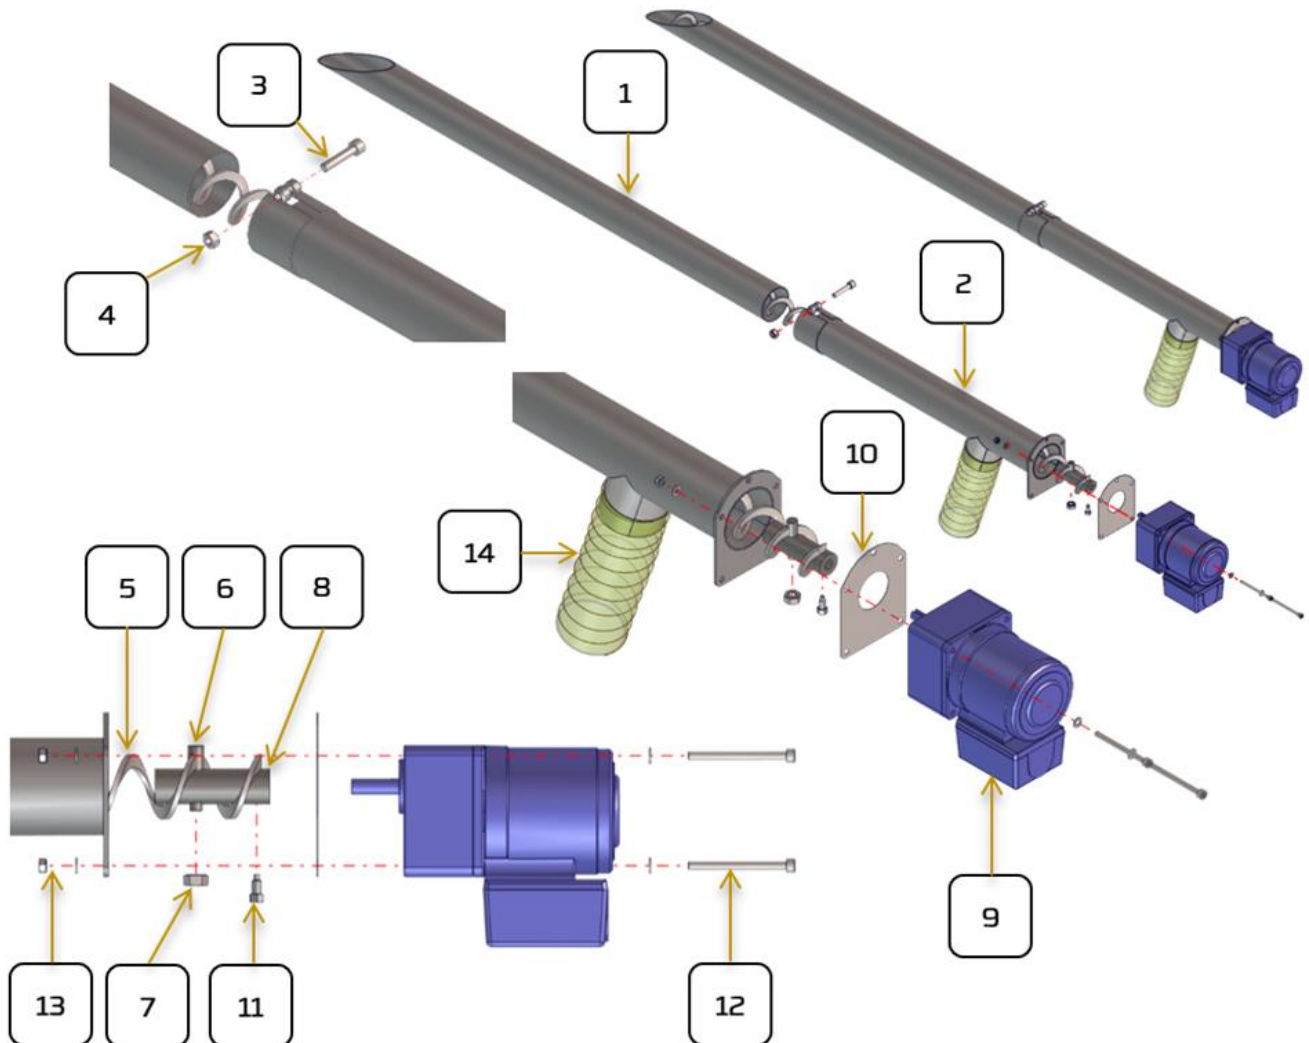

Fig. 4. Type 1 feeder design.
**Feeder installation diagram (Fig. 4):**
1. Connect the two pipes (1) and (2) using M8 bolt (3) and M8 nut with washers (4);
2. Place the mandrel (6) in the shaft hole (8), then screw the spiral (5) onto the mandrel (6) and tighten with the M8 nut (7);
3. Put the feeder cap (10) on the motor spindle (9);
4. Slide the shaft (8), together with the screwed spiral, onto the motor spindle (9) and secure with the set screw (11);
5. Slide the spiral (5) inside the pipes. Use bolts (12) and nuts (13) to screw the motor (9) to the pipe flange.